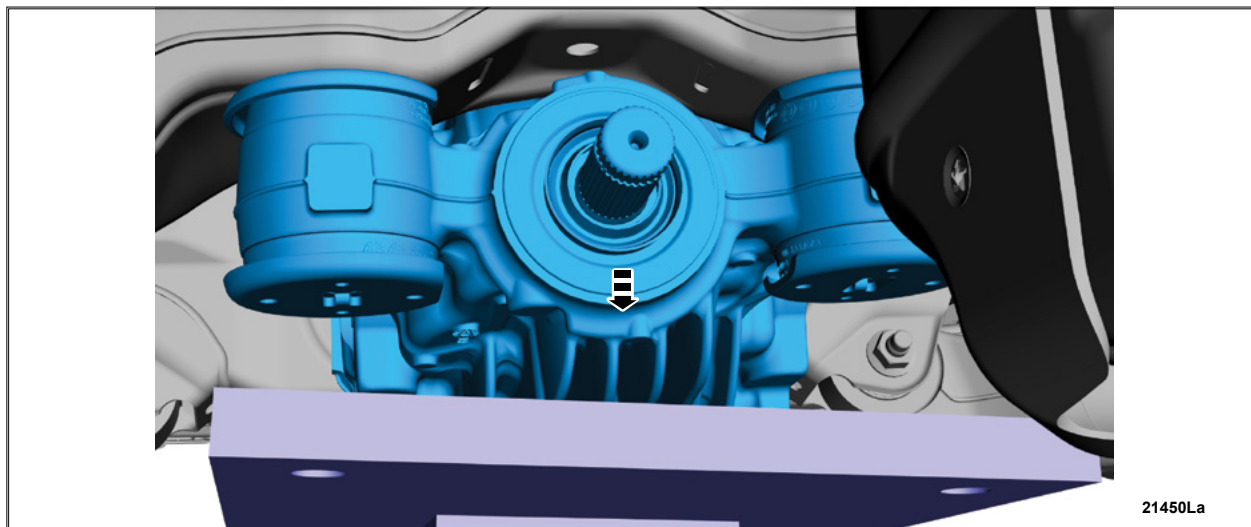

FIGURE 12
19. Gently let down the transmission jack and remove the rear axle assembly. See Figure 12.